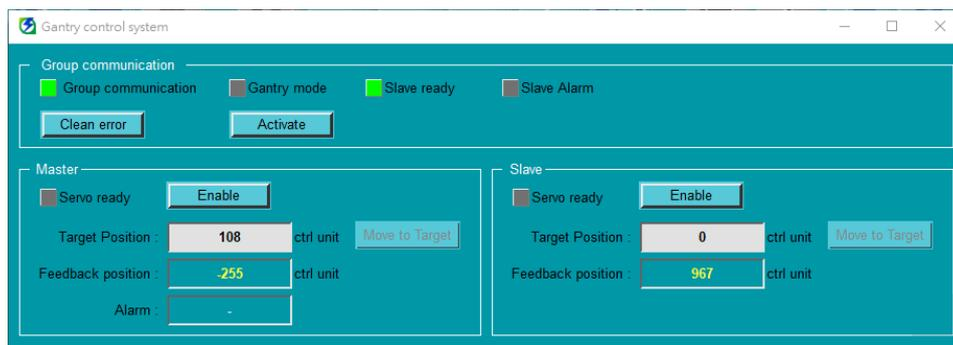

Figure 7.4 Open **Gantry control system** window:
- 1. If Master is used with E1 firmware version 2.8.16 (included) or before and E2 firmware version 3.9.20 (included) or before, **Gantry control system** window is shown as figure 7.4. There is no status light of **Firmware matched** and  icon.